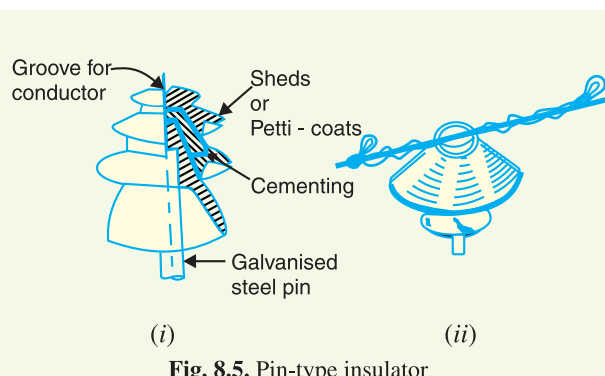

Fig. 8.5. Pin-type insulator
1. Pin type insulators. The part section of a pin type insulator is shown in Fig. 8.5 (i). As the name suggests, the pin type insulator is secured to the cross-arm on the
pole. There is a groove on the upper end of the insulator for housing the conductor. The conductor passes through this groove and is bound by the annealed wire of the same material as the conductor [See Fig. 8.5 (ii)].